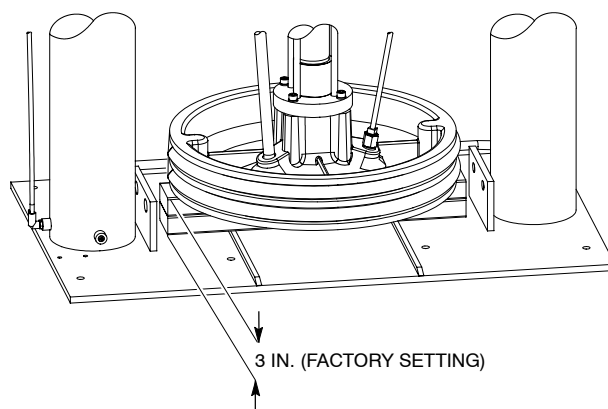

Figure 4 Spacer Placement
2. Set a spacer onto the base surface of the frame as shown in Figure 4.
2. Set 3-in. spacers onto the base surface of the frame as shown in Figure 4.